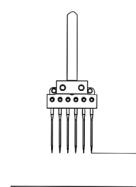

图13(Fig.13)
1.当针杆上升至最高点时，调整针尖与针板面的距离为 $13\pm0.5\text{mm}$ 。(图13)
1.Needle tip should be  $13\pm0.5\text{mm}$  height from Needle plate when Needle Bar moves to its top position. (Fig.13)